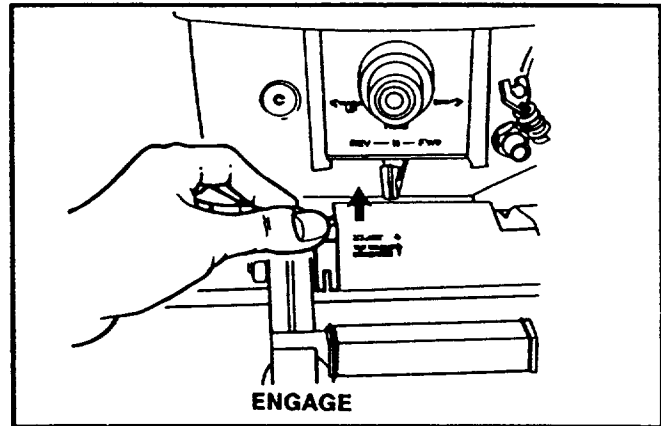

FIGURE 9
- Push the tilt release lever up to engage position. (Figure 9)